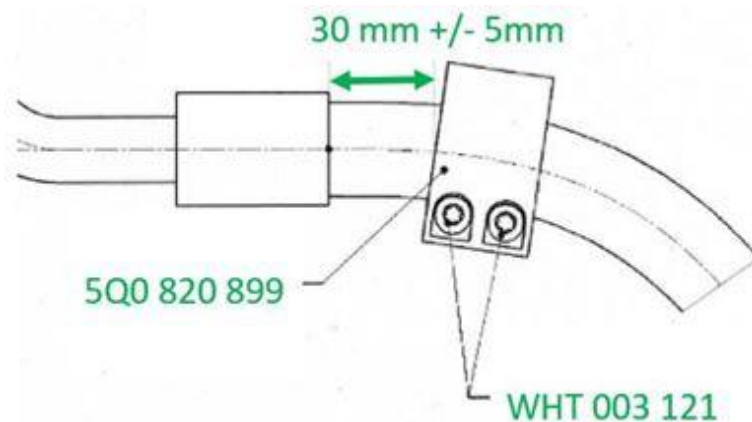

Figure 2. Specification for the positioning of the balance weight.
2. Tighten the bolts to 13 Nm (+/- 3 Nm) (Figure 2).